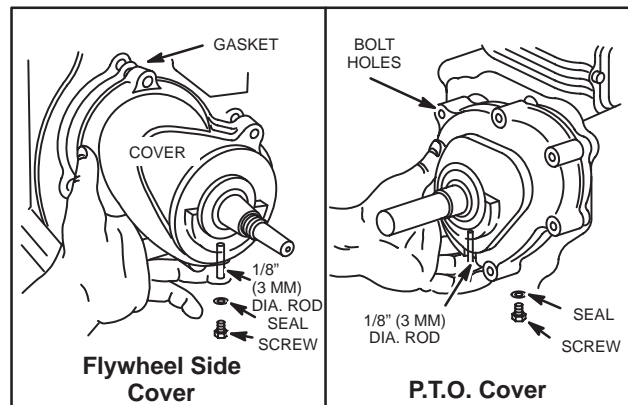

Fig. 185 – REMOVING TIMING HOLE SCREW
1. Remove the timing hole screw from cover assembly, Fig. 185.
2. Insert a short piece of 1/8" (3 mm) rod through timing hole in cover and into machining hole in counterweight, Fig. 185. The rod holds the counterweight in the proper position while cover is installed on engine.